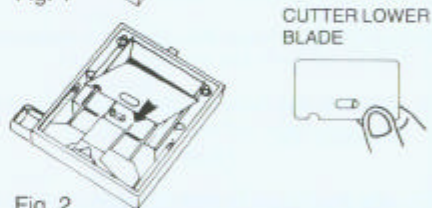

Fig. 2
4. Set the CUTTER LOWER BLADE. The fluorine coated face (black matte face) should face upward. The semicircular notch should be on the lower left. (Fig. 2)